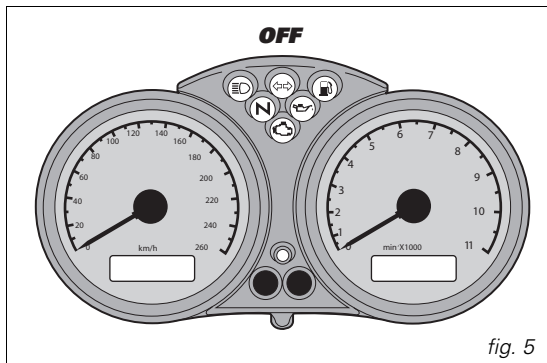
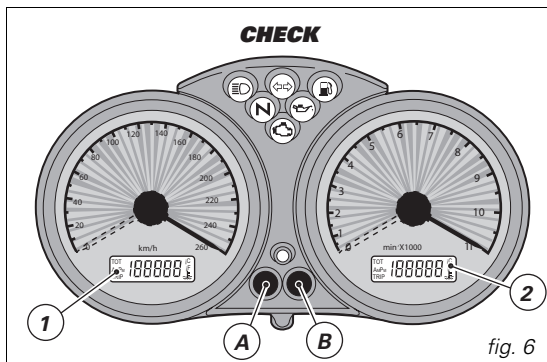

fig. 5
fig. 6
When turning the key from **OFF** to **ON (Key-ON)** the instrument panel carries out a **Check** of the whole instruments: indexes, displays and pilot lights (see fig. 5 and fig. 6).
Turn the key to **ON** and press (B, fig. 6) to display trip meter and odometer alternatively.
Keep (B, fig. 6) pressed for more than 2 seconds. When the **TRIP** function is enabled (trip meter), display (LCD 1) will reset.
Turn the key to **ON** and press (A, fig. 6) to display clock and oil temperature.
Press (A, fig. 6) for at least 2 seconds.
Press (B, fig. 6) to set AM/PM. Press (A) to set hours. Use button (B) to change hour value. Press (A) to set minutes. Press (B) to increase the value. Keep the button pressed for more than 5 seconds to proceed faster. Press (A) to quit this function.
Turn the key to **ON** and press (B, fig. 6) within 5 seconds to change instrument panel lighting power.